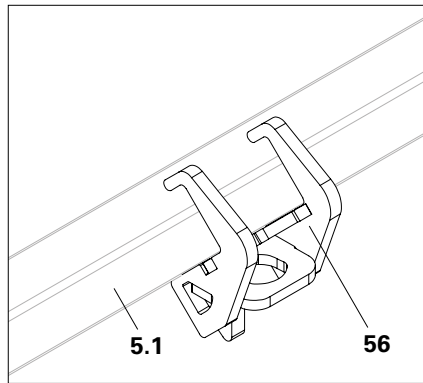
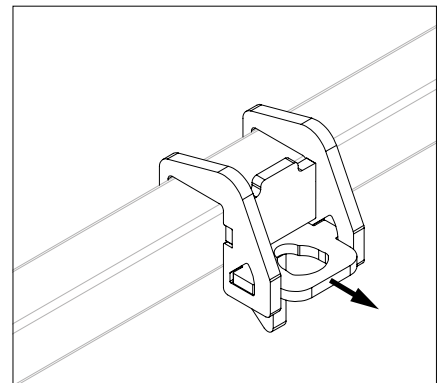

Fig. A11.10b
Fig. A11.10c
- The ledger-to-ledger coupler (**56.1**) tilts into the horizontal position and locks in place. (Fig. A11.10b + Fig. A11.10c)
2. Pull the ledger-to-ledger coupler up so that the nose (**56.2**) is in contact with the beam tube. (Fig. A11.10c)